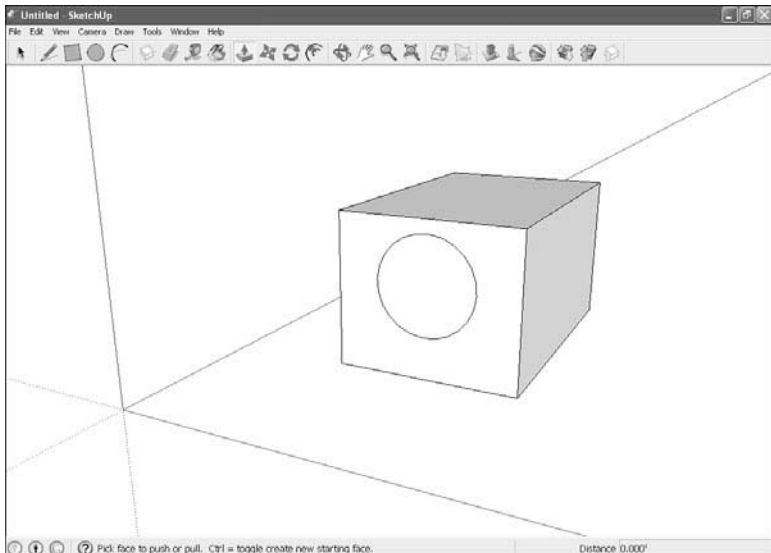

FIGURE 5.3 A cube with an attached circle.
In the previous task, you saw that you could pull a free-standing rectangle into 3D. But now take a look at Figure 5.3.
2. Draw the cube as shown in Figure 5.3.
3. Draw a circle on the cube using the Circle tool, as shown in Figure 5.3.
What if you wanted to push or pull an object exactly 5 feet when making it 3D? That is, suppose you have a circle on one surface of a cube (refer to Figure 5.3), and you want to pull the circle out into a cylinder exactly 5 feet—could you do it?